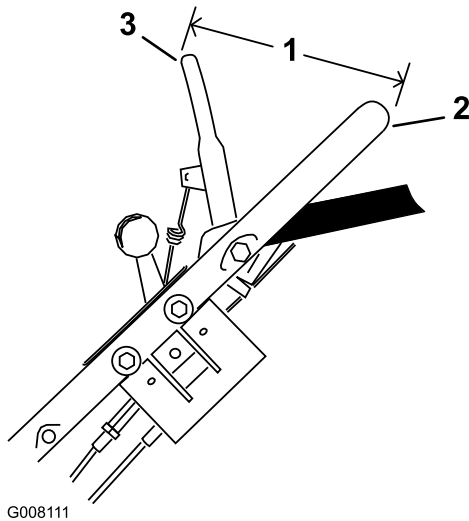

Figure 29
- 6. Hold the blade control bar so that the **outside** of the bar is 5-1/2 inches (14 cm) from the **outside** of the handle, and pull the cable to remove the slack, but do not put tension on the spring (Figure 29).